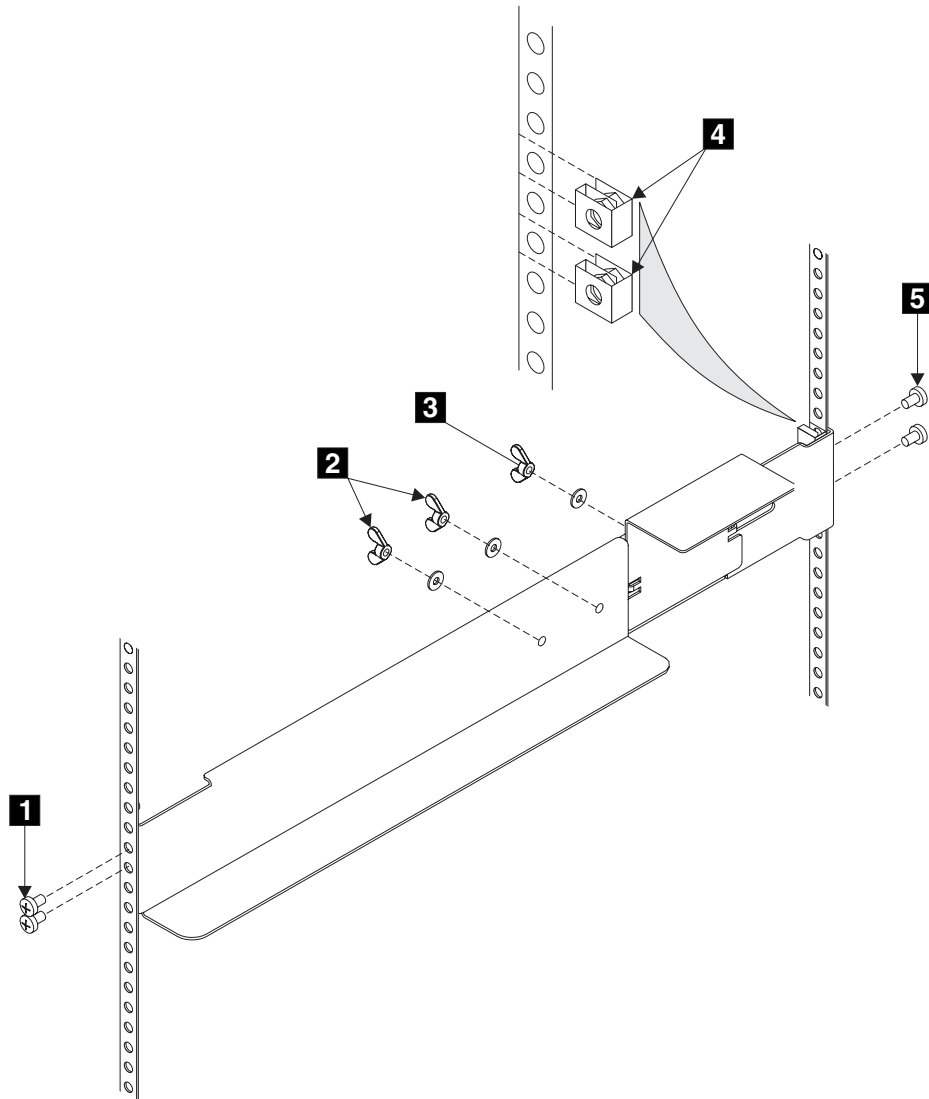

Figure 10. Installing support rails for a uninterruptible power supply into the rack
- At the back of the rack, observe the Electrical Industries Association (EIA) positions, and determine where you are going to install the uninterruptible power supply (see Figure 10 on page 36). An uninterruptible power supply must always be installed into the lowest available position in the rack. The only device that can be below a uninterruptible power supply is another uninterruptible power supply.